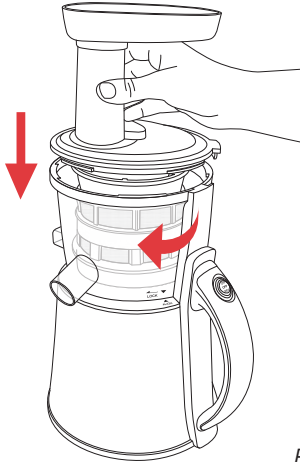

Figure 4
4. Place the juicer cover onto the juicing bowl and rotate clockwise until firmly locked in place – figure 4.